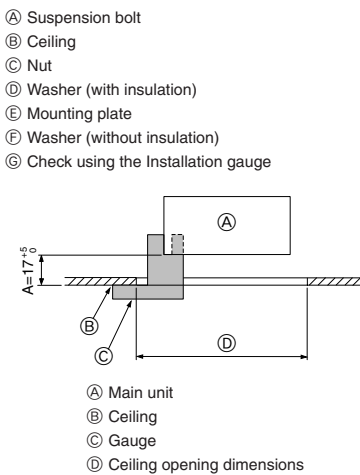

Fig. 2-6
- Make sure that step A is performed within 17-22 mm. Damage could result by failing to adhere to this range. (Fig. 2-6)